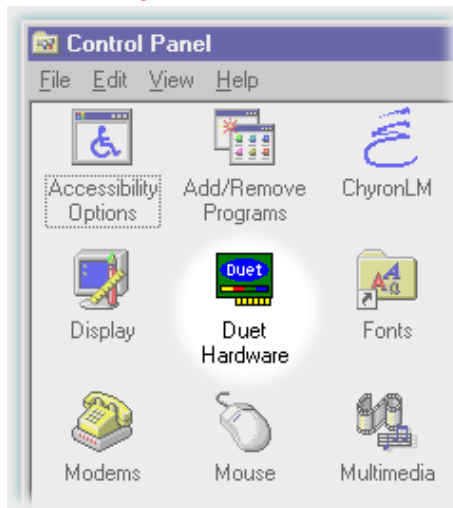

Figure 2-5. Duet Hardware Windows Control Panel
1. Double-click the **Duet Hardware** icon, as seen in *Figure 2-5*.
Turn on the main power switch on the **REAR** Panel. Refer to Figure 2-5. **DO NOT USE THE FRONT PANEL POWER SWITCH!** Normal Windows NT startup commences.
- [] 1. Turn on the main power switch on the rear panel (see Figure 2-5). The fans may briefly start and then stop depending on factory BIOS settings; THIS IS NORMAL!